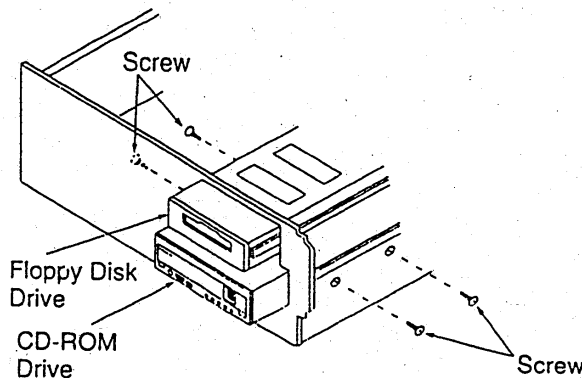

Fig.2
- Look above your vacant disk drive bay. If it is occupied by a floppy disk drive, slide the floppy disk drive forward a couple of inches. Do not disconnect its cables. This will allow for easier CD-ROM drive installation. (Fig. 2)